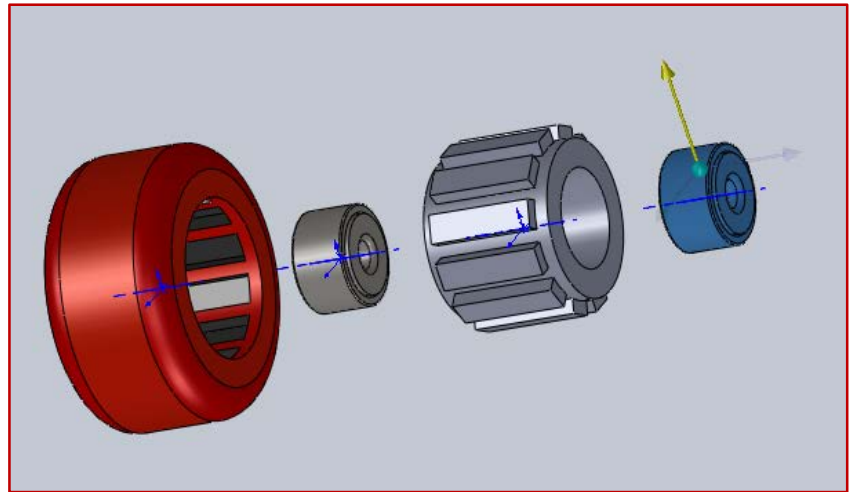

Figure 11.3 – Exploded Assembly
- ✓ Right-click **Default** and select **New Exploded View** to get the menu in Figure 11.3.